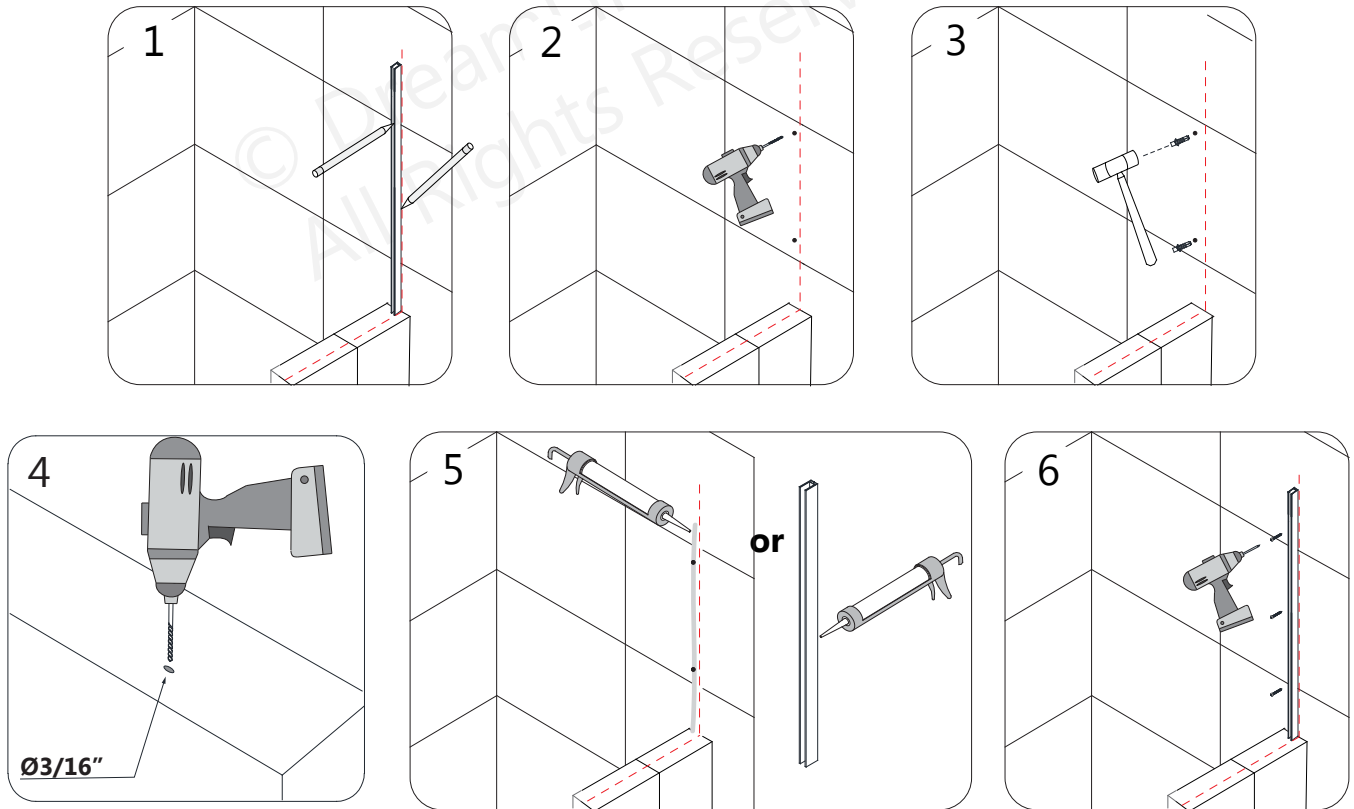

Fig 15
15. Remove the **Buttress Return Panel Glass (#04)** and the **U-Channel (#03)**. Place the **U-Channel (#03)** against the plumb line on the wall and mark the holes for drilling through the pre-drilled holes. *Drill the holes using a **Ø5/16"** drill bit and insert the **Wall Anchors (#14)**. Apply a bead of silicone behind the U-Channel and attach it to the wall using the **ST4.2×40 Pan Head Screws (#13)**. **(Fig 15)**